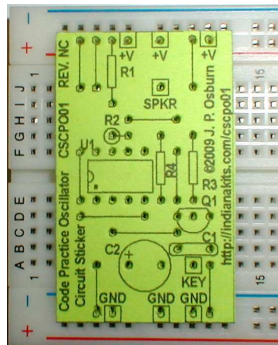

Figure 4 - CSCPO01 Sticker on Solderless Breadboard
- ◇ Carefully remove the release paper from the Circuit Sticker and apply it to the solderless board properly aligned and orientated. See Figure 4..